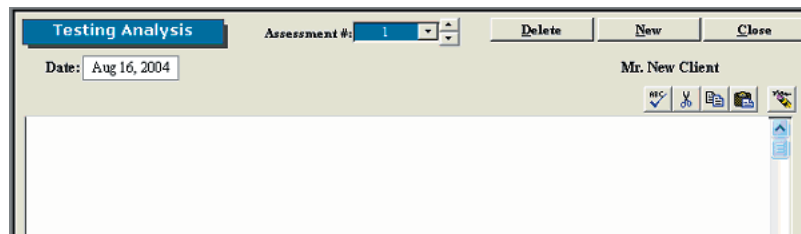

Figure 4-10. Blank Notes Screen
Step 5. Click **Cancel Edit** and then select the template you just viewed. This will bring you to the corresponding screen (Figure 4-10).